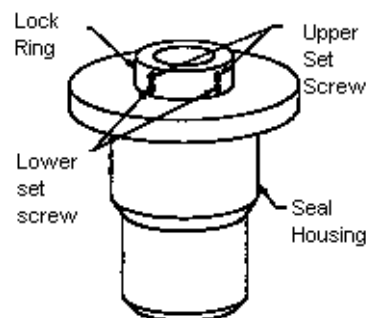

Figure A5.5
- 2.a Inspect the seal assembly to be sure O-rings are included on the seal housing cover and the shaft sleeve. On the lock ring, be sure the lower set screws are tight and upper set screws are loose. See Figure A5.5.